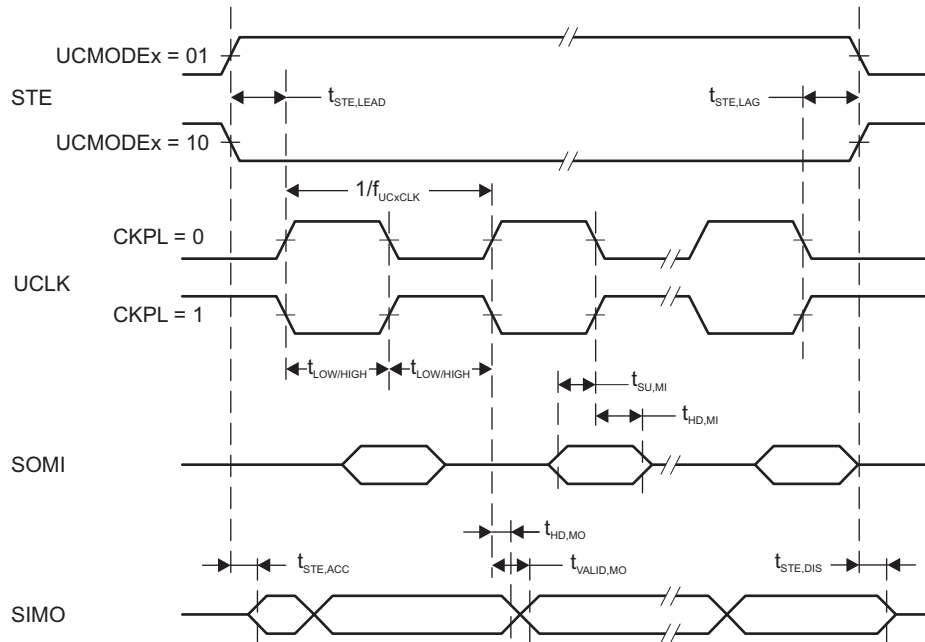
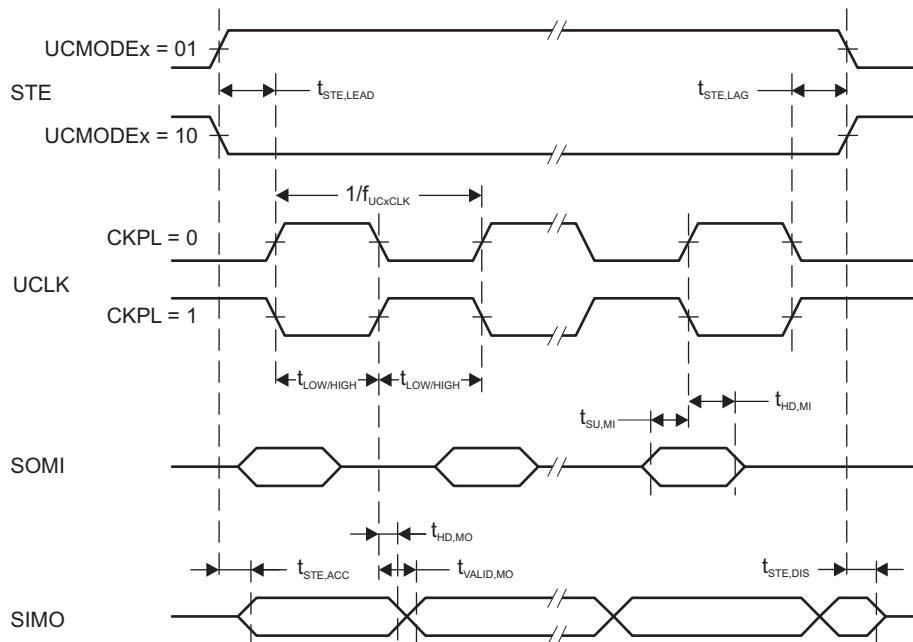

Figure 4-15. SPI Master Mode, CKPH = 0
Figure 4-16. SPI Master Mode, CKPH = 1
- (1) $t_{UCxCLK} = 1/2t_{LO/HI}$ with $t_{LO/HI} = \max(t_{VALID,MO}(eUSCI) + t_{SU,SI}(Slave), t_{SU,MI}(eUSCI) + t_{VALID,SO}(Slave))$. For the slave parameters $t_{SU,SI}(Slave)$ and $t_{VALID,SO}(Slave)$, see the SPI parameters of the attached slave.
- (2) Specifies the time to drive the next valid data to the SIMO output after the output changing UCLK clock edge. See the timing diagrams in Figure 4-15 and Figure 4-16.
- (3) Specifies how long data on the SIMO output is valid after the output changing UCLK clock edge. Negative values indicate that the data on the SIMO output can become invalid before the output changing clock edge observed on UCLK. See the timing diagrams in Figure 4-15 and Figure 4-16.